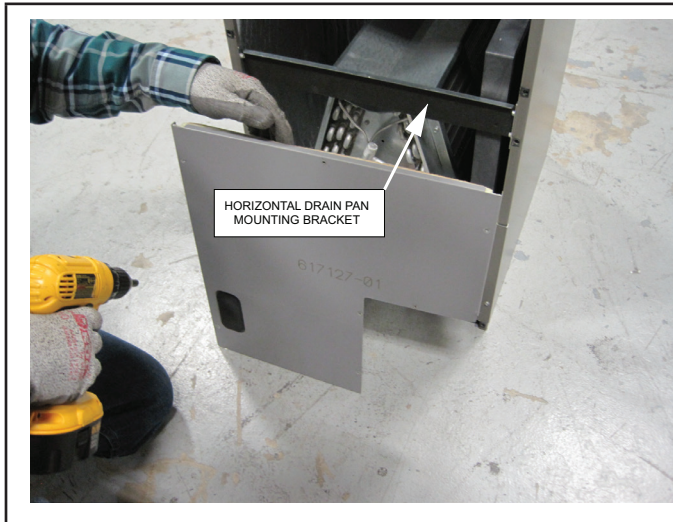

FIGURE 4.
- 3 - Remove horizontal drain pan mounting bracket (FIGURE 4). This bracket will not be reinstalled for downflow air discharge applications.